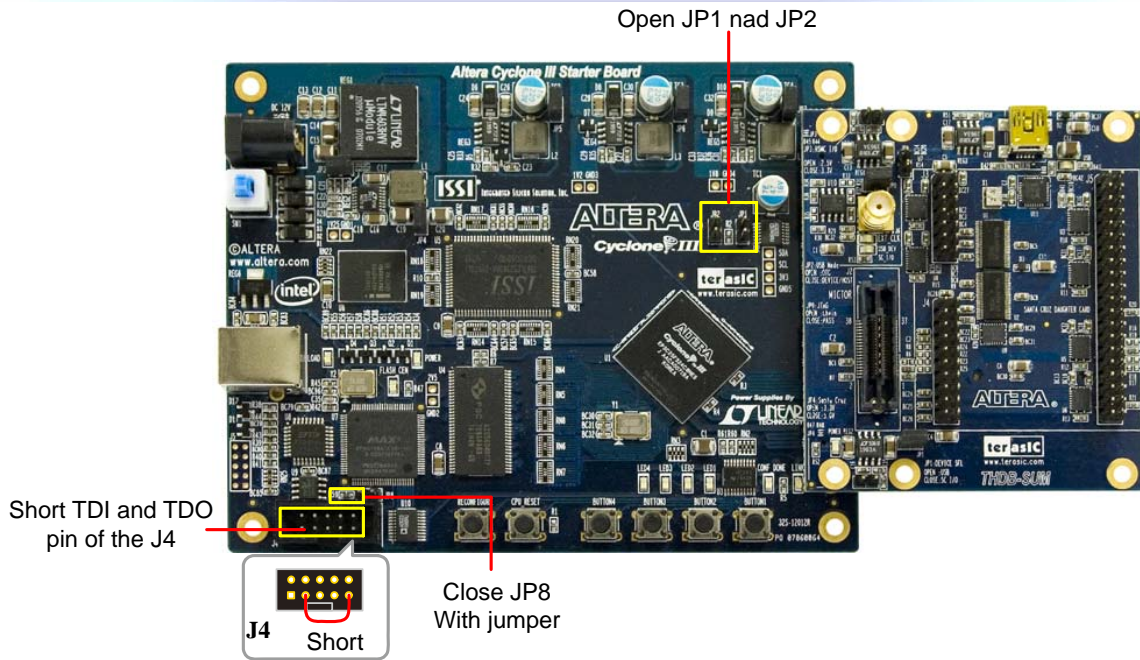

Figure 3.10 The configuration of the Cyclone III start board for controlling the JTAG chain using the Micotr connector
3. Short the TDI and TDO pins of the JTAG connector(J4), as shown in Figure 3.10